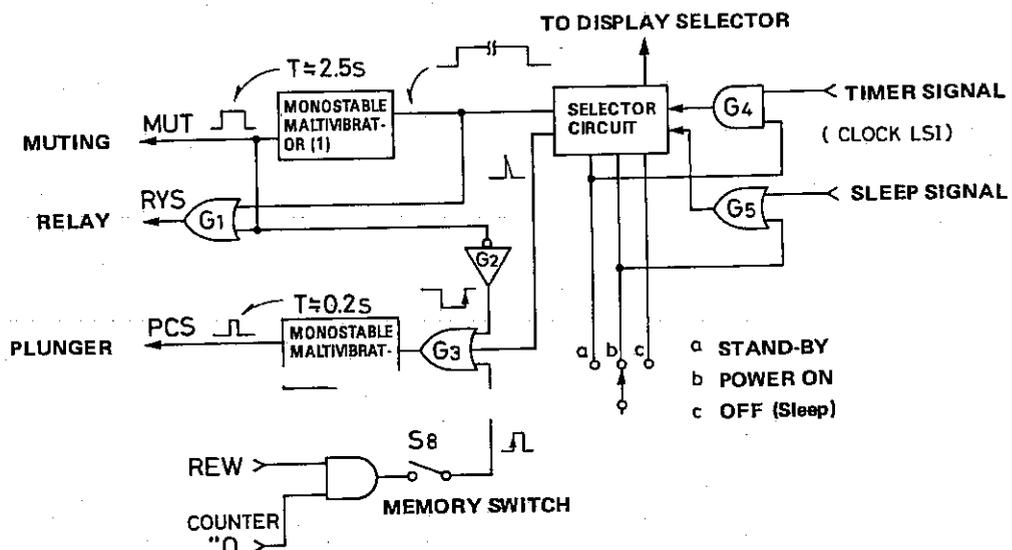
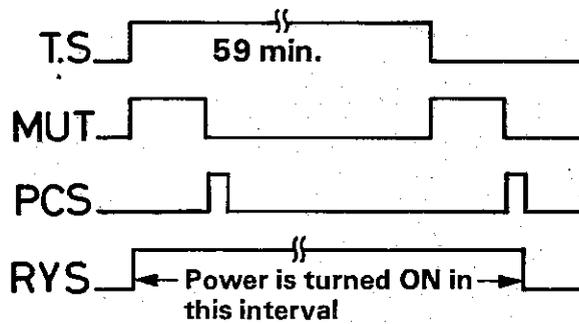
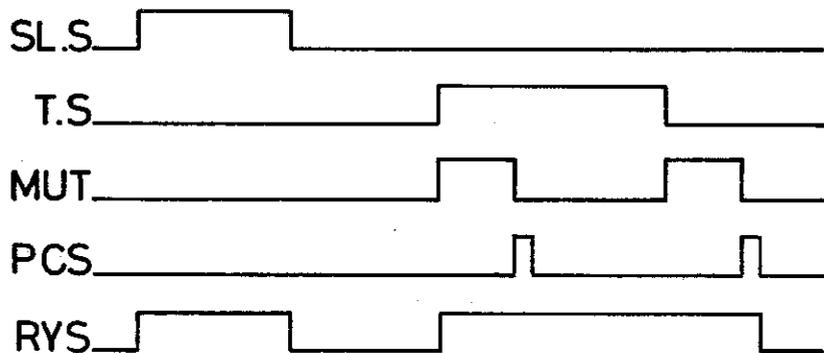

Fig. 8
Fig. 9
Fig. 11
Figure 8 shows the block diagram of the control circuits, and figures 9 through 11 show the time chart for each of the control circuits. The timer signal and the sleep signal in Fig. 8 are singals from the clock LSI, each generated at the time of the respective operation. The switch S7 is used for selecting "timer stand-by", "sleep shut-off," etc.
- a --- Figure 9 shows the time chart for the timer stand-by operation. When the timer signal is generated at the set time of the timer, the monostable multivibrator I will be triggered to generate the muting signal (MUT) for about three seconds. Near the end of this period, the monostable multivibrator II will be triggered to generate the plunger driving signal (PCS), and start the stand-by operation. Before this happens, the relay driving signal (RYS) is generated at the same time with the generation of the timer signal, and turns the power ON. The timer signal will last for 59 minutes. At the end of this period, as at the beginning, the muting signal (MUT) will be generated, followed by generation of the plunger driving signal (PSC). This causes the mechanism to stop. The relay will be turned OFF immediately after.
- c --- Figure 11 shows the time chart for the case of setting S7 at the stand-by position and using the sleep timer. This chart differs from Figs. 9 and 10 in that neither the muting signal nor the plunger driving signal is generated at the time of generation of the sleep signal.